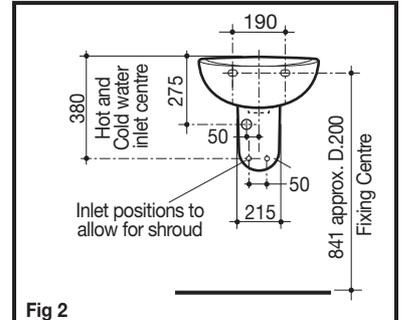

Fig 2
For timber stud walls, noggings and studs must be positioned at a height to allow for the location of fasteners in the detailed centre fixing position for the bracket option available for the Faun Wall Pedestal basin. The centre position is detailed in **Figure 2**.
- 1- Mark fixing hole centres on finished wall at the recommended height as detailed in **Figure 2**.